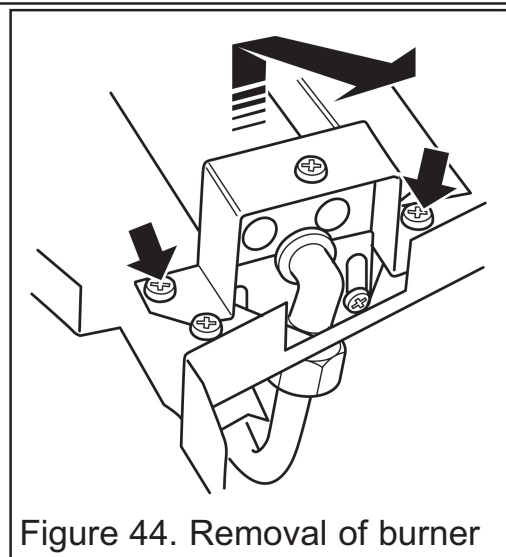

Figure 44. Removal of burner
**3.** Remove the two screws from the burner clamping plate (See figure 44)